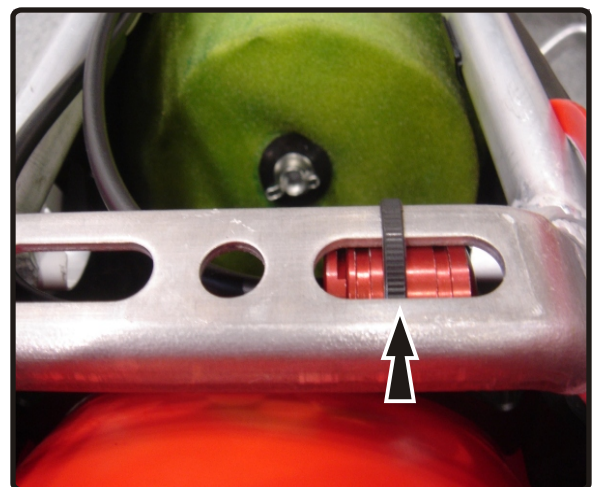

Fig. 3
6. Locate an area in the airbox where the Yoshimura float bowl vent canister can be secured (as shown in Fig. 3).
9. If any problem is found, please carefully follow through the installation steps again. If problems still persist, please call Yoshimura technical department at (800)634-9166 / in CA (909)628-4722.